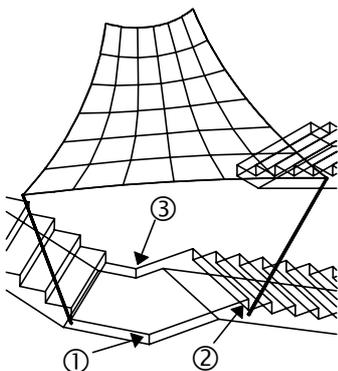

Figure 26
- Finally, turn ON the *Stair* layer and turn OFF the *Construction* layer, then use Figure 26 to position the *UCS* with *Origin* at 1, *X-axis* through 2 and *XY plane* through 3 — make the two poles, four arcs and the mesh into a block called **Tarp**, and with the *Current Layer* set to *ShadeCloth*, insert that block on every third landing (except the one just below the platform).